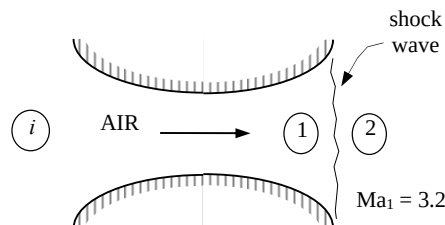

Figure Q4[a]
- Q4. [a]** Air flowing steadily in a nozzle experiences a normal shock at a Mach number of $Ma = 3.2$ as in Figure Q4[a]. If the back pressure and temperature of air are 58kPa and 270K, respectively, upstream of the shock, calculate the pressure, temperature, velocity, Mach number and stagnation pressure downstream of the shock. Compare these results to those for helium under-going a normal shock under the same conditions. Given the properties of air are $k = 1.4$ and $R = 0.287$ kJ/kg·K, and the properties of helium are $k = 1.667$ and $R = 2.0769$ kJ/kg·K, where k is the specific heat ratio and R is the specific gas constant.